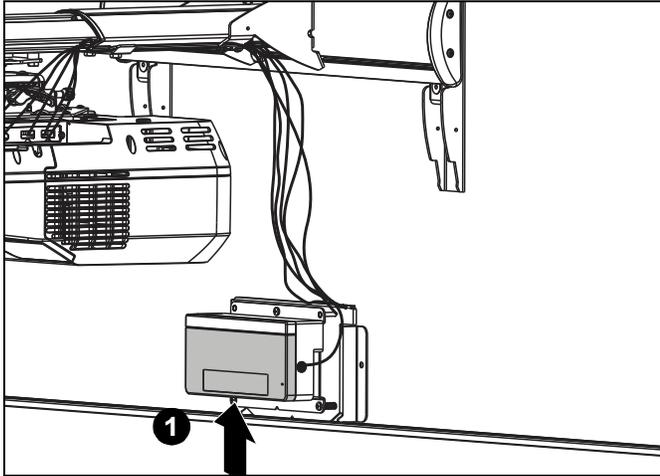

Figure 55
1. Reattach the touch sensor cover, using the retained fastener still remaining in the cover. (See Figure 55)